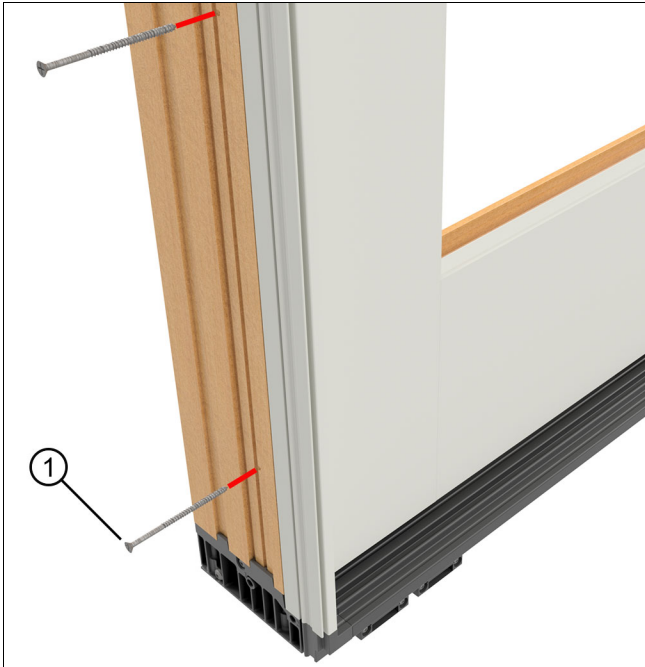

Figure 37
9. Fasten the jamb to the panel with the #8 x 3" flat head screws. See Figure 37.